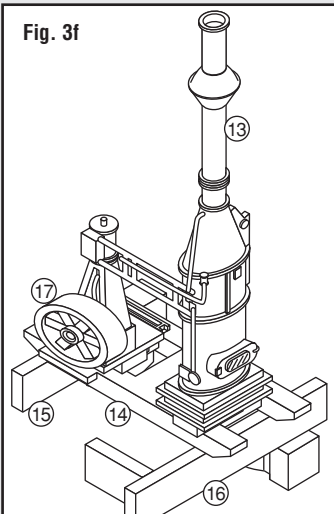

Fig. 3f
- Glue Steam Engine (13), Drive Wheel (17), Base Support (15), and Base Support (16) to Steam Engine Base (14) (Fig. 3f).